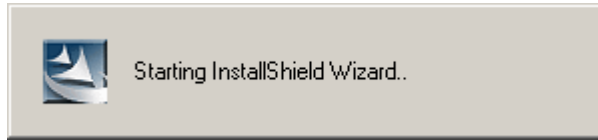

Figure 7-36: RTL8110SC InstallShield Wizard
Step 16: The **InstallShield Wizard** continues (Figure 7-36).